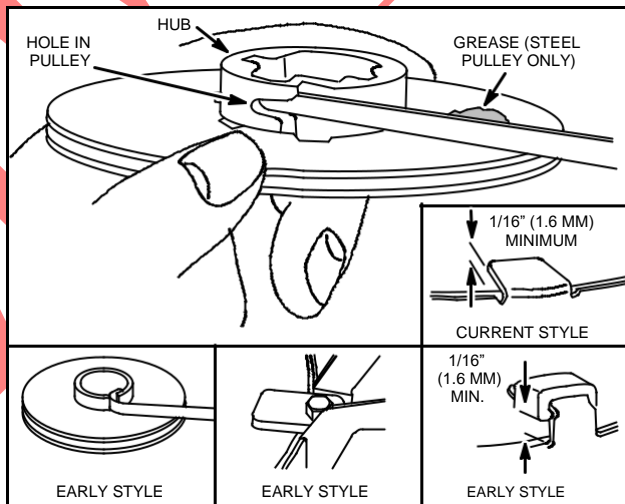

Fig. 601 – INSTALL SPRING
5. Insert either end of spring into blower housing slot and hook into pulley, Fig. 601.
7. Set pulley into housing and bend tang down, Fig. 601. Adjust tang gap as shown. Pulley must be depressed fully into rewind housing when measuring tang gap.